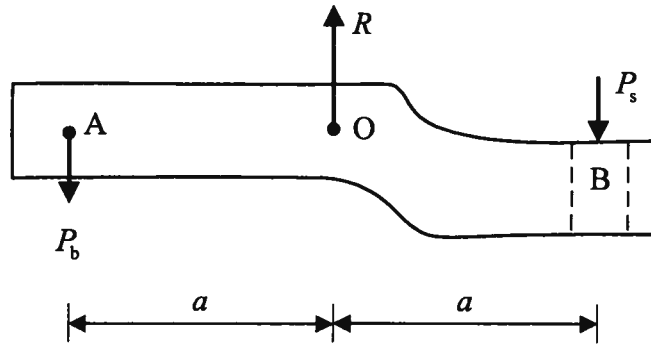

Figure S1: FBD of the beam.
Free-body diagram of the beam is shown in Figure S1.
*Note:* Tightening the nut will pull the steel rod (upward) generating its tension  $P_s$ . The equal downward reaction on the nut will be balanced by the upward reaction from the beam on the nut. Hence, the downward force on the beam by the nut is  $P_s$ , as shown in Figure S1.